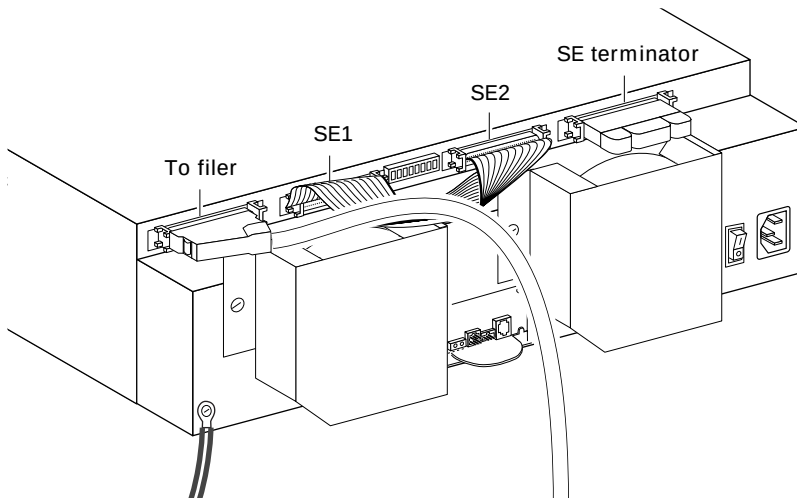

Figure 2-5. Attaching cables on a single-shelf configuration
For the single-shelf configuration, the disk shelf is shipped with a ribbon cable attached to the SE1 and SE2 connectors and a single-ended SCSI terminator installed on the connector labeled **SE terminator**. Do not remove or change these connections. The only cable you need to attach to the shelf is the 6.56-ft. (2-m) SCSI cable that connects the shelf to the filer. The SCSI cable has a color-coded label that indicates to which SCSI card connector on the filer to attach it. Figure 2-5 shows the cable and terminator connections for a single-shelf configuration as they are labeled.
1. Make sure that the power switch next to the power receptacle on the back of the disk shelf is turned off (see Figure 2-5).